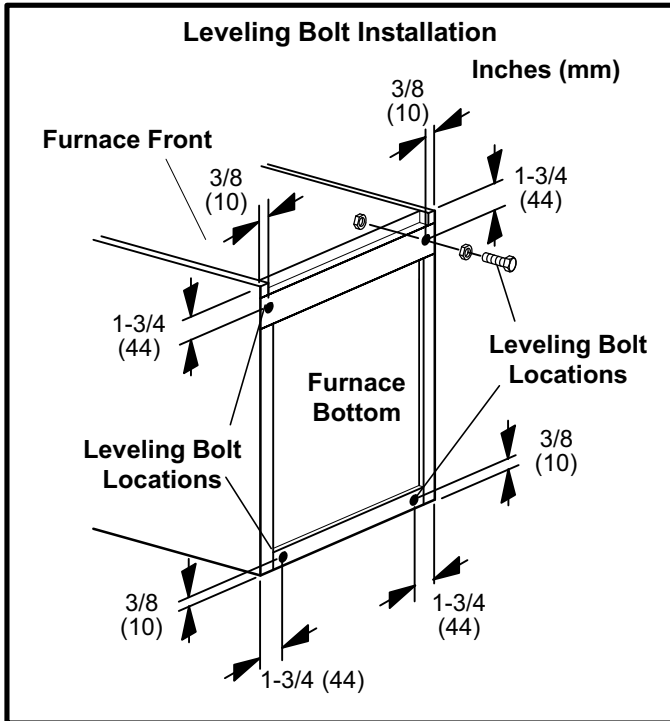

FIGURE 12
When the side return air inlets are used in an upflow application, it may be necessary to install leveling bolts on the bottom of the furnace. Use field-supplied corrosion-resistant 5/16 inch machine bolts (4) and nuts (8). See figure 12.
- 1 - Lie the furnace on its back and drill a 5/16 inch diameter hole in each corner of the furnace's bottom. See figure 12 for the correct location of the holes. Drill through the bottom panel and the bottom flange of the cabinet.